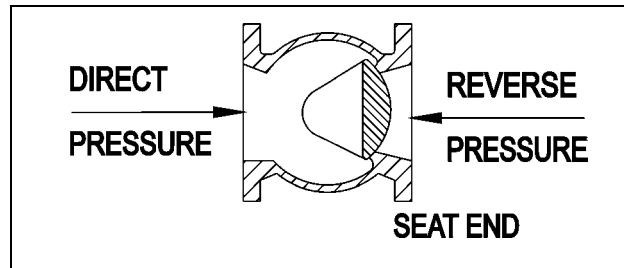

Figure 1 – Pressure Direction
**Direct Pressure** - When the higher pressure is at the end opposite the seat. See Figure 1.
**Reverse Pressure** - When the higher pressure is at the seat end of the valve. See Figure 1